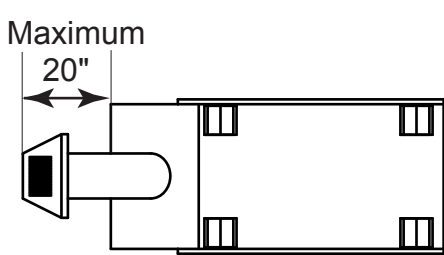
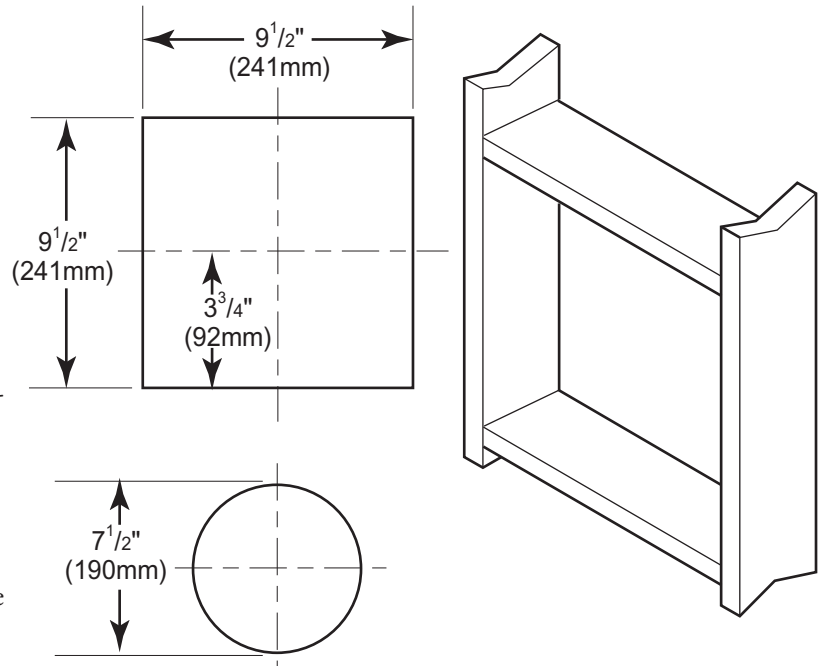

Figure 11 - Rear Vent Application, Maximum Horizontal Distance
Figure 12 - Vent Opening Requirements
- The maximum horizontal distance between the rear of the appliance and the outside of termination is 20" (508 mm). See Figure 11.
1. Locate and cut the vent opening in the wall. For combustible walls first frame in opening. See Figure 11.
**Combustible Walls:** Cut a 9 1/2" H x 9 1/2" W (241mm x 241mm) hole through the exterior wall and frame as shown. See Figure 12.
3. Attach vent pipe assembly to the fireplace. Set fireplace in front of its permanent location to insure minimum clearances. Mark the wall for a 9 1/2" H x 9 1/2" W (241mm x 241mm) square hole (for noncombustible material such as masonry block or concrete, a 7 1/2" [190mm] diameter hole is acceptable). See Figure 11. The center of the hole should line up with the center line of the horizontal rigid vent pipe end. Be sure to allow for minimum rise. Cut a 9 1/2" x 9 1/2" (241mm X 241mm) square hole through combustible exterior wall (7 1/2" [190mm] diameter hole if noncombustible). Frame as necessary. Allow 1/4" minimum rise per foot. See Figure 12.
1. Establish vent hole through the wall. *See Figure 12, page 17.*